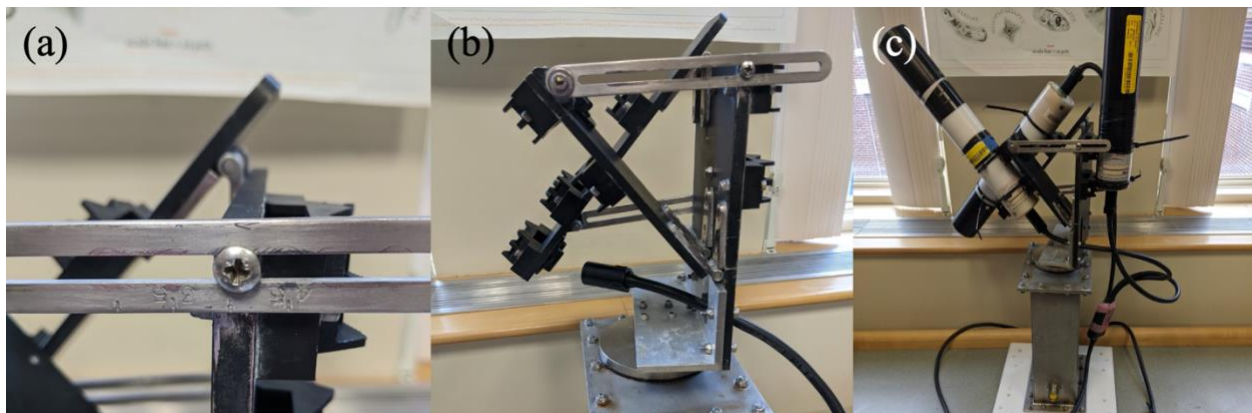

Figure 3. Mounting radiometers on the tower.
2. Set the radiometers' mounting bracket such that the HyperOCR sensors point at 40° from the horizontal (Figure 3.a).
3. Feed the three heads of the HyperSAS cable through the mounting bracket (Figure 3.b), then connect the labeled cords to the respective HyperOCR sensors and THS head. If labels were to be missing, the THS should be plugged to the middle cable while the HyperOCR should be plugged to either side cable. It's easier to attach the cables prior to mounting the HyperOCR/THS on the mounting bracket.
4. Fasten the HyperOCRs and THS with zip ties (Figure 3.c). It is recommended to leave the excess zip-tie to discourage seabirds from landing on the system.